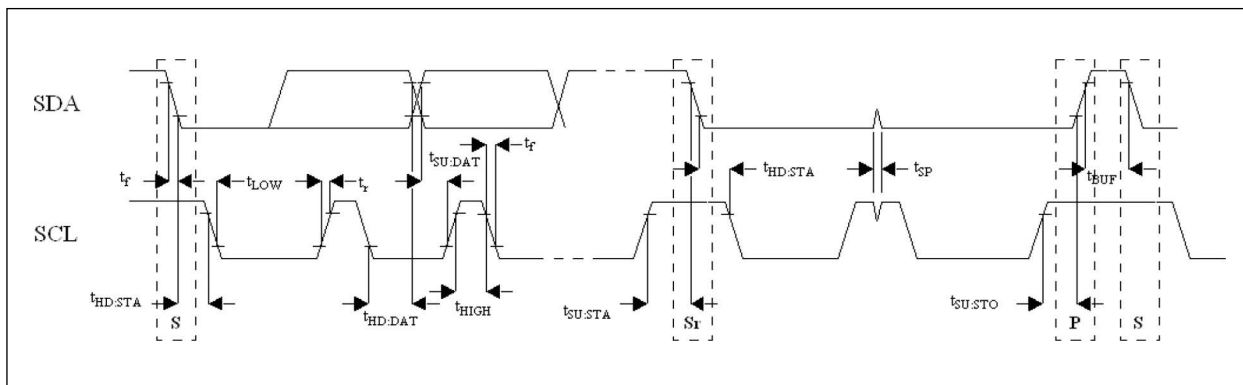

FIGURE 10-14: I²C Serial Microport Timing.
- 7:** The jitter test circuit is shown in Figure 10-14.
Note 7: The jitter test circuit is shown in Figure 10-14.
7: The jitter test circuit is shown in Figure 10-14.